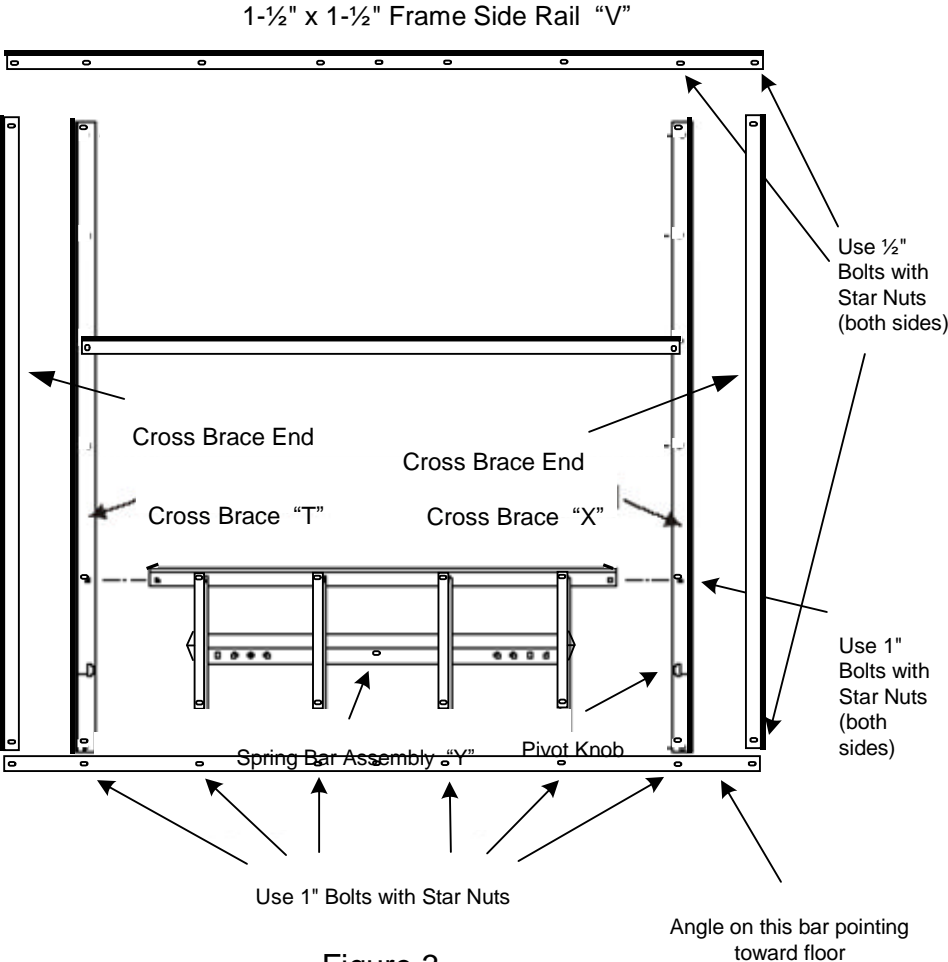

Figure 3
10. Lay parts flat out on floor so holes in ends of Cross Braces are on floor and angle is pointing up and Pivot Knob is visible on Cross Brace C and D as shown in Figure 3.
11. Attach Cross Braces (O,O1), (T,T1),(X,X1), and Spring Bar Assembly (Y) to Side Rails (V), bringing Bolt through Side Rail into Cross Braces so head of bolt is touching floor and nuts can be hand tightened.